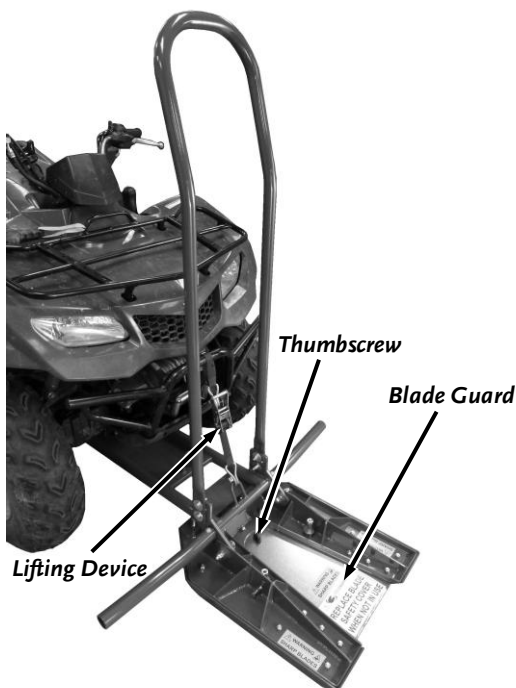

Figure 18
1. The TreeChopper can be raised and lowered by attaching a lifting device (winch, ratchet strap, chain) and using one of the hooks on the chassis (**Figure 18**). This allows for quicker travel to and from the cutting areas while the TreeChopper is in the raised position. Remember, the TreeChopper must be on the ground and properly adjusted prior to cutting.